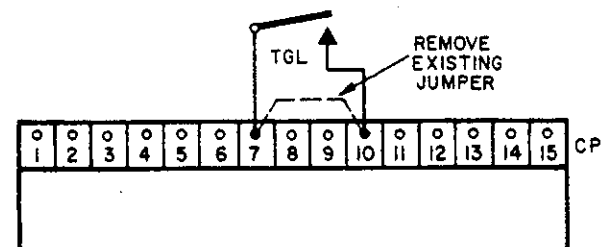

Figure 15. Optional Accessory 6C
**Acc. 6C** Reset switch to manually retransfer the automatic transfer switch to the normal source with automatic retransfer in event of emergency source failure. If **Feature 3A** is used, wait until the time delay has expired before operating the reset switch. See Figure 15.